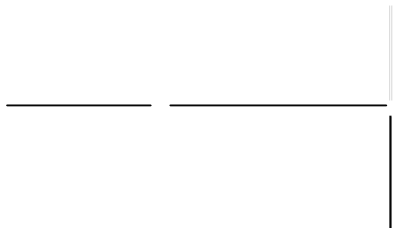

Fig. 10 Demonstration of light absorption with colour filters (F = colour filter, M = ground screen)
- Set up the experiment as shown in Figure 10.